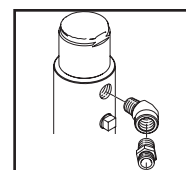

Fig. 8
- If using the optional hopper, remove the nipple fitting from the filter. Install 45° elbow into filter and install nipple fitting into elbow. Then connect the hose to the nipple. (Fig. 8)